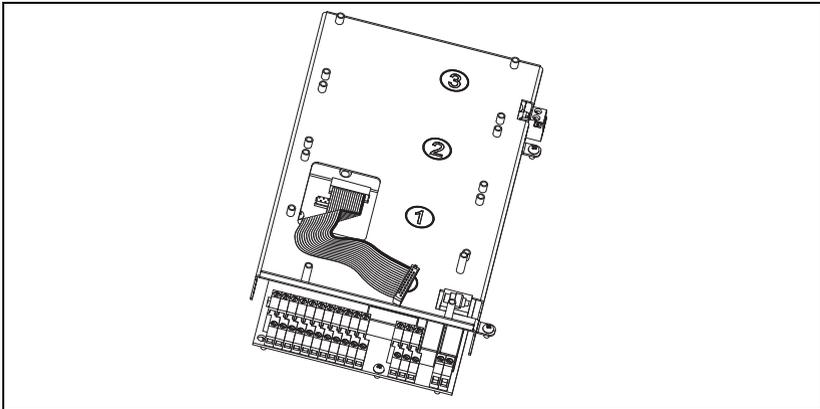

Fig. 9 Flat cable connected to the control board.
1. Connect the 16-pole flat cable (75 mm) to the X5 connector on the control board with the cable downwards as in Fig. 9